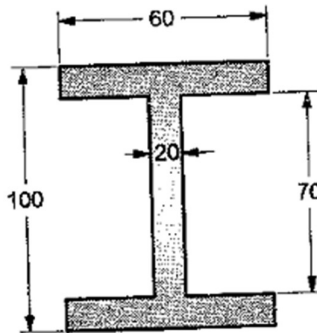

Figure: 2 (Que: 2-C)
- I-section beam: geometry needed from Figure 2.
Let's assume from Figure 2: